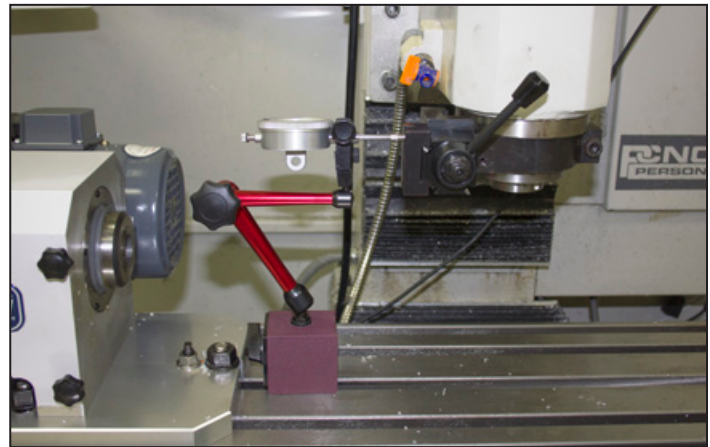

Figure 2.23
13. Attach magnetic dial indicator to machine table as shown in **Figure 2.23**, positioning indicator tip to be swept along vertical surface of tool holder pocket (see **Figure 2.24**).